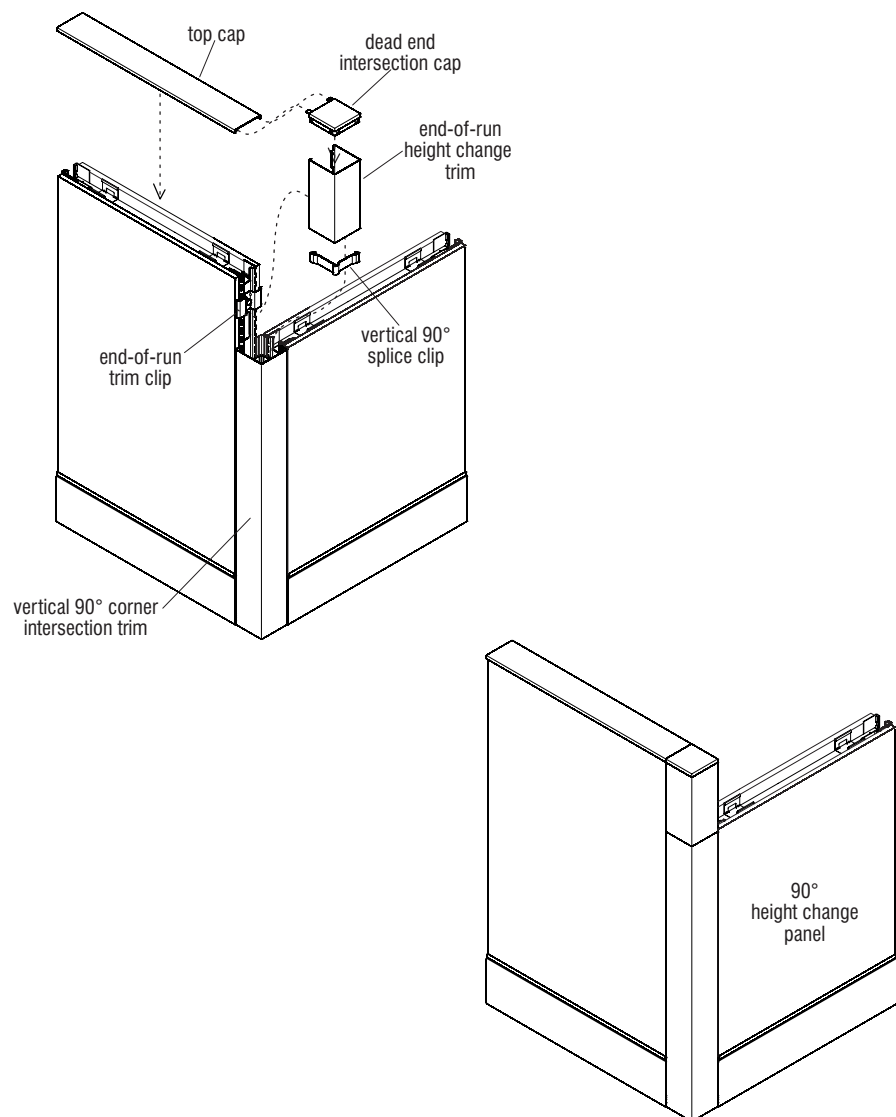

Figure 14 - End-of-Run 90° Height Change Vertical Trim
**Note:** For equal-height intersections, one full-height vertical trim piece is required (Figures 11, 12 & 13). For height-change intersections, two stacked trim pieces are required to complete the intersection (Figures 14 & 15). At height-change intersections, the lower trim must install first and the upper trim stacks, then clips on above it.
1. Install a vertical splice clip into the top of the vertical 90° or in-line corner intersection trim (Figures 14 & 15).
2. Orient the appropriate “end-of-run height change trim” with the top up, so it aligns properly with the installed end-of-run trim clip. Correctly positioned, the longer tabs of the trim will be to the top, and the smaller tabs with paint-hanging hole will be at the bottom. The bottom of the upper tabs will rest on the top edge of the end-of-run trim clip (Figures 14 & 15).
3. Hook one side of the end-of-run height change trim onto the end-of-run trim clip. Rotate the hooked trim towards the un-clipped side, up against the trim clip and snap the trim into place by striking the loose side with a rubber mallet or the palm of your hand. Ensure that the clip(s) are fully engaged to prevent trim from falling off (Figures 14 & 15).
cap into the top of the end-of-run height change trim and snap the top cap into place at the top of the panel frame (Figures 14 & 15).